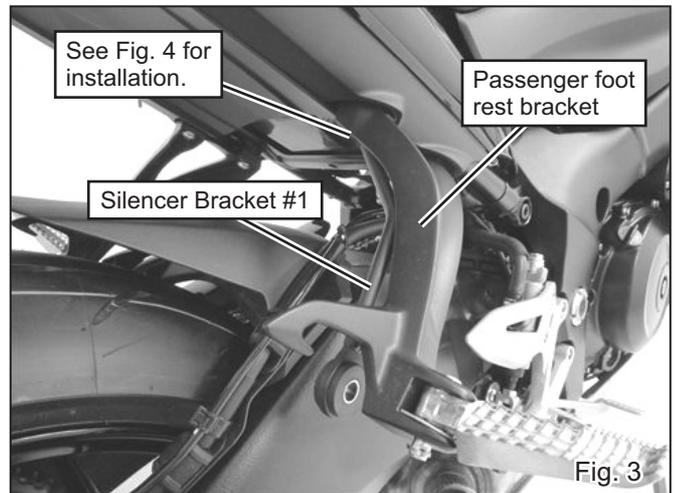

Fig. 3
- 5) Remove right side stock passenger foot rest bracket once. Then, mount Silencer Bracket #1 and removed foot rest bracket together with 2 of Cap Bolt M8x30 (See Fig. 3 & 4). Tighten and torque Cap Bolt M8x30.